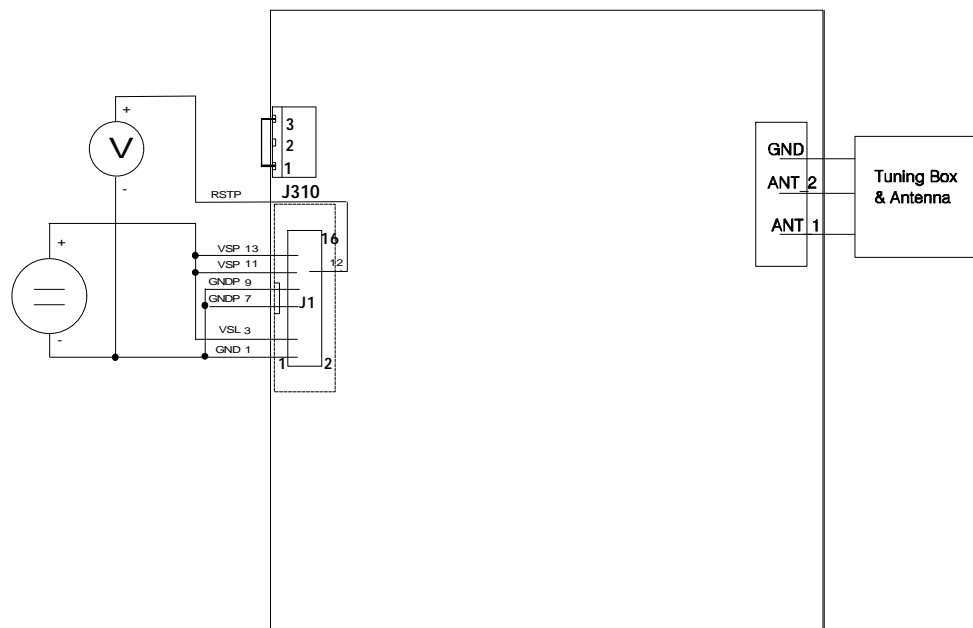

Figure 32: Noise Testing Configuration (Testing RSTP)
The measurement criteria for low noise is the amplitude of the receive signal strength detector of the RA-RFM. The test pin RSTP at connector J1 carries an analog output voltage indicating the receive signal strength. This voltage should be measured in combination with the Antenna RI-ANT-G02. The set-up for this can be seen in figure 32. This configuration operates the RA-RFM from a battery and has no interface line connected. As the transmitter is switched off for this configuration, a normal battery can be used for this test.
- * Try the configuration shown in figure 32. If this configuration shows bad noise conditions (RSTP voltage more than about 1.0 Vdc), then the problem is radiated noise.
- * When the configuration of figure 32 shows good noise conditions (RSTP voltage less than 1.0 Vdc), then the problem is conducted noise.